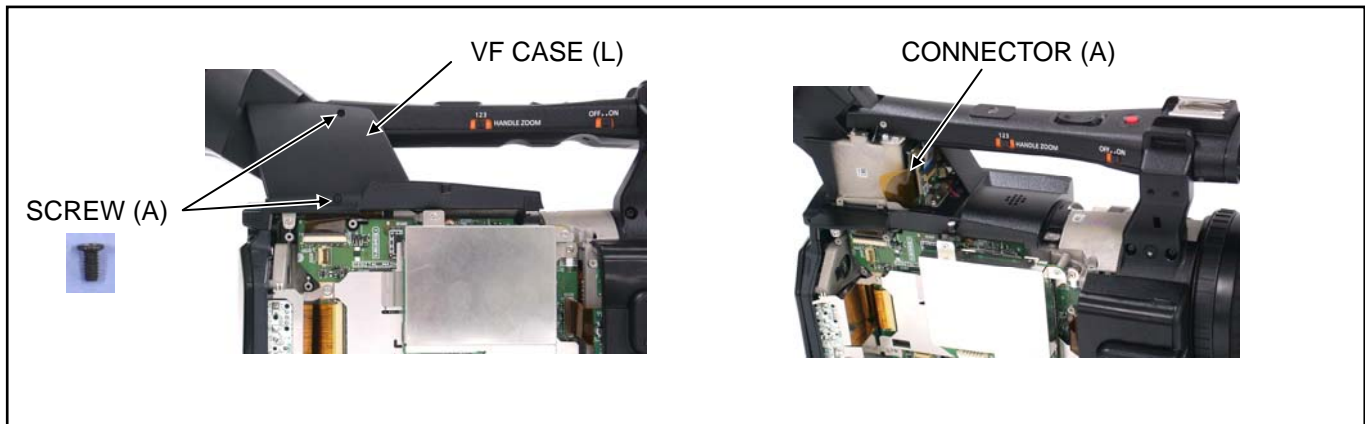

Figure 14-1
3. Unscrew the 2 screws (A) and remove the VF Case (L) as shown in figure 14-1.
4. Disconnect a connector (A) as shown in figure 14-1.